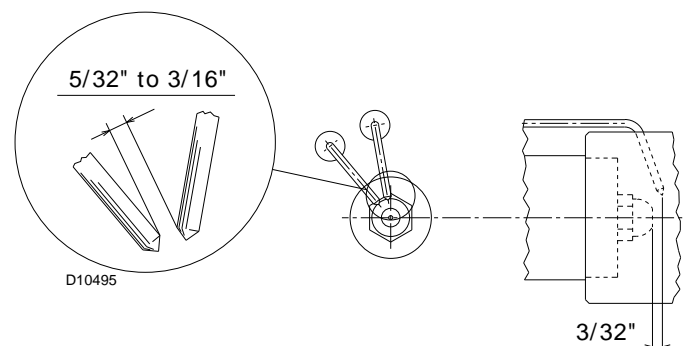

Fig. 15
Refer to Fig. 15 for the electrode position.
- The nozzle for low fire operation is the one lying beneath the firing electrodes (Fig. 15).
- Make sure that the electrodes are positioned as shown in Fig. 15.